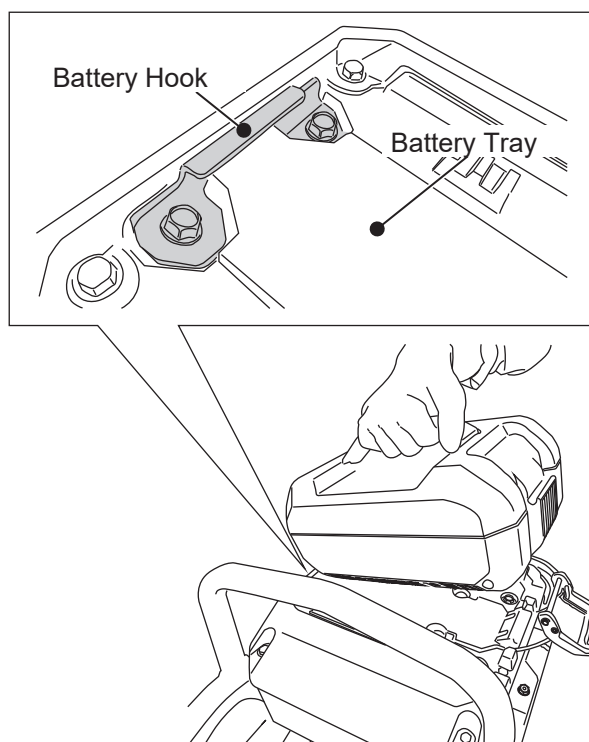

Fig.3
1. Make sure there are no debris or dirt on the battery tray.(Fig.3)
2. Tilt the Battery Pack and insert its claw into the battery hook.(Fig.3)
2. Pull the battery fastener down to unlock, tilt the Battery Pack up and pull the Battery Pack claw out from the battery hook, and remove the Battery Pack. (Fig.3,4)